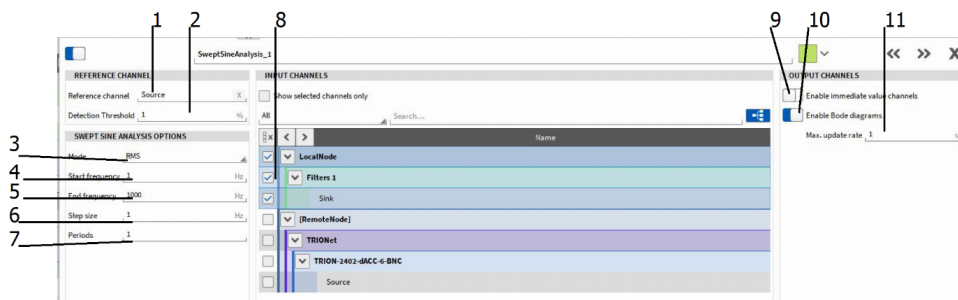

Fig. 7.130: Swept Sine Analysis setup – overview
- *ChannelName\_iRMS* or *ChannelName\_iPeak*: Time domain channel; Contains the amplitude (RMS or Zero-to-Peak level depending on the selection in ③ in Fig. 7.130) of the signal at the actual frequency; The amplitude is only referring to the fundamental frequency signal components; Can be assigned to a Recorder (see *Recorder*), Digital Meter (see *Digital meter*) or similar.
- *ChannelName\_iUFRMS* or *ChannelName\_iUFPeak*: Time domain channel; Contains the amplitude (RMS or Zero-to-Peak level depending on the selection in ③ in Fig. 7.130) of the signal at
- *ChannelName\_RMS* or *ChannelName\_Peak*: Frequency domain channel; Contains the transfer function (RMS or Zero-to-Peak level depending on the selection in ③ in Fig. 7.130); The amplitude is referring to the fundamental frequency signal components; Can be assigned to a Spectrum Analyzer (see Spectrum analyzer) instrument for displaying the data.
- *ChannelName\_UFRMS* or *ChannelName\_UFPeak*: Frequency domain channel; Contains the transfer function (RMS or Zero-to-Peak level depending on the selection in ③ in Fig. 7.130); The amplitude is referring to the entire signal components; Can be assigned to a Spectrum Analyzer (see Spectrum analyzer) instrument for displaying the data.